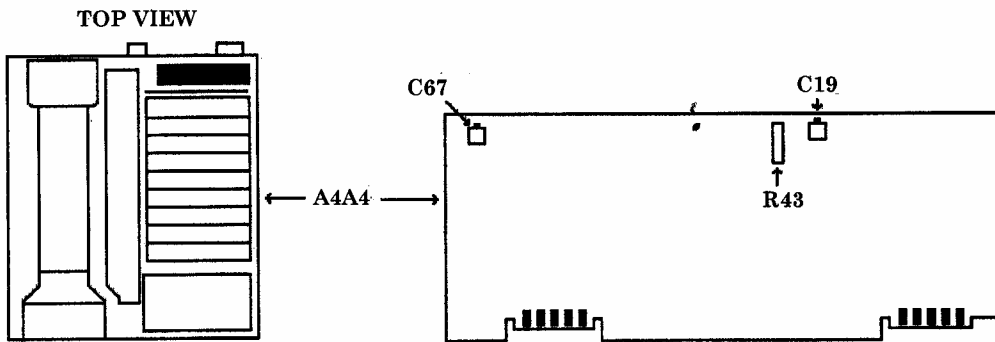

Figure 17. A4A4 board.
(68) Adjust A4A4C67 and A4A4C19 (fig. 17) for maximum level as indicated by TI indication
- (72) Adjust A4A4R43 (fig. 17) to align markers on TI display. **MKR Δ** level should indicate 1.00X.